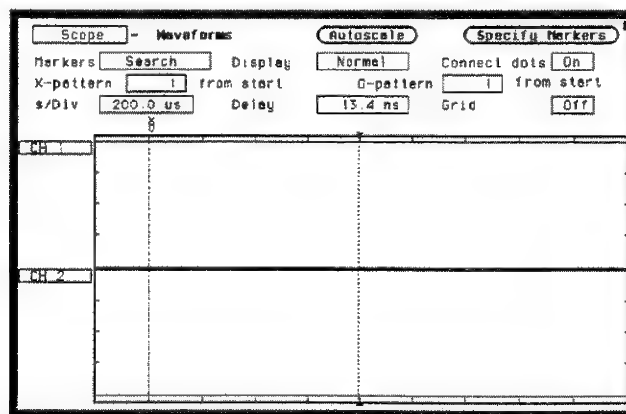

Figure 25-12. Search fields
**Search** When **Search** is selected from the Markers field, a new middle row of fields and the **Specify Search Markers** field will appear. See figure 25-12.